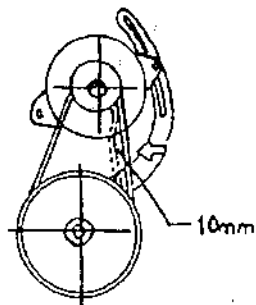

Fig. 5-8
The proper tension is shown in Fig. 5-8. A dip is approximately 10mm when the belt is depressed by a finger (approximately 60N). Adjust if more than it. Loose bolt (1) and nut (2), remove the alternator to obtain the proper tension.